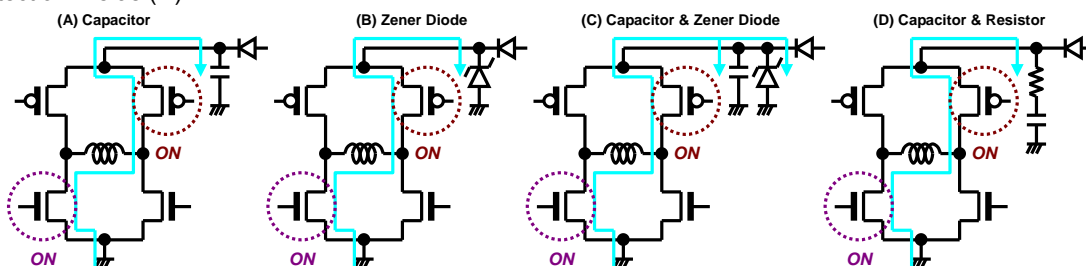

Figure 29. Measure Against V_{CC} and Motor Driving Outputs Voltage
When the absolute maximum rated voltage may be exceeded due to the voltage rise by the back electromotive force, place a (A) capacitor or (B) Zener diode between the VCC pin and the GND pin for regenerative current path as shown in Figure 29. If further measures are necessary, use measures of (A) and (B) together like as (C). The capacitor and the resistor can be used to have better voltage surge protection like as (D).